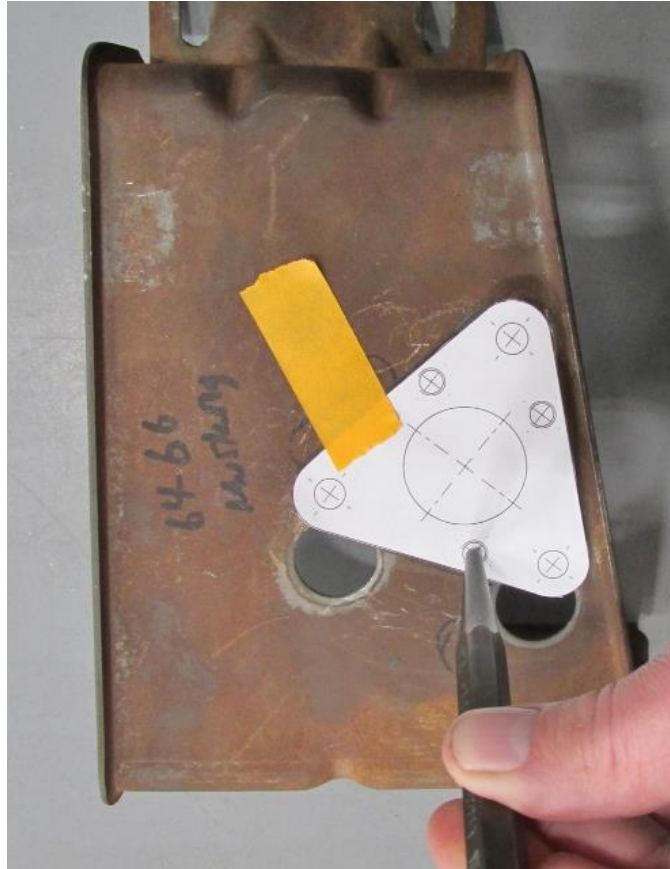

Figure 4 - Transfer Punch Bracket
7. Use a center punch and locate the center of the three smaller holes to the bracket (Figure 4). Remove the template from the bracket.